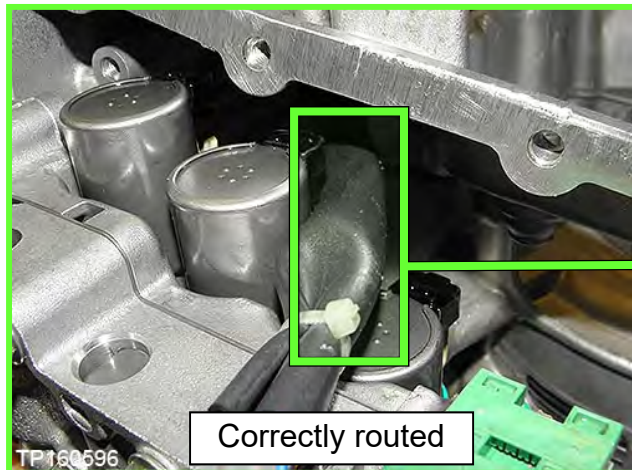
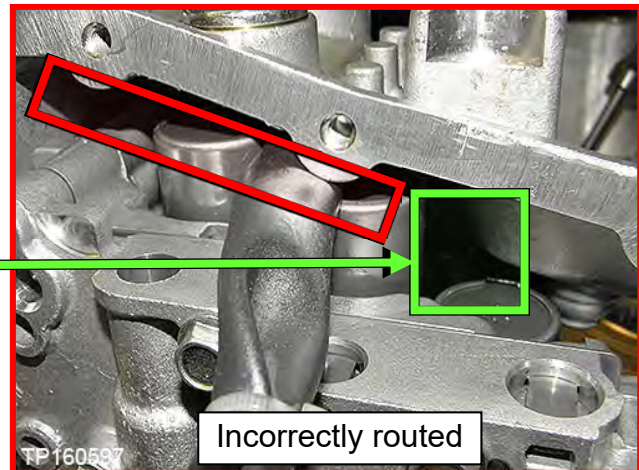

Figure 164
Figure 165
- Leave four (4) ✘ bolt holes empty at this step.
- Make sure the wiring harness is not pinched (see Figure 164 and Figure 165 for correct routing).